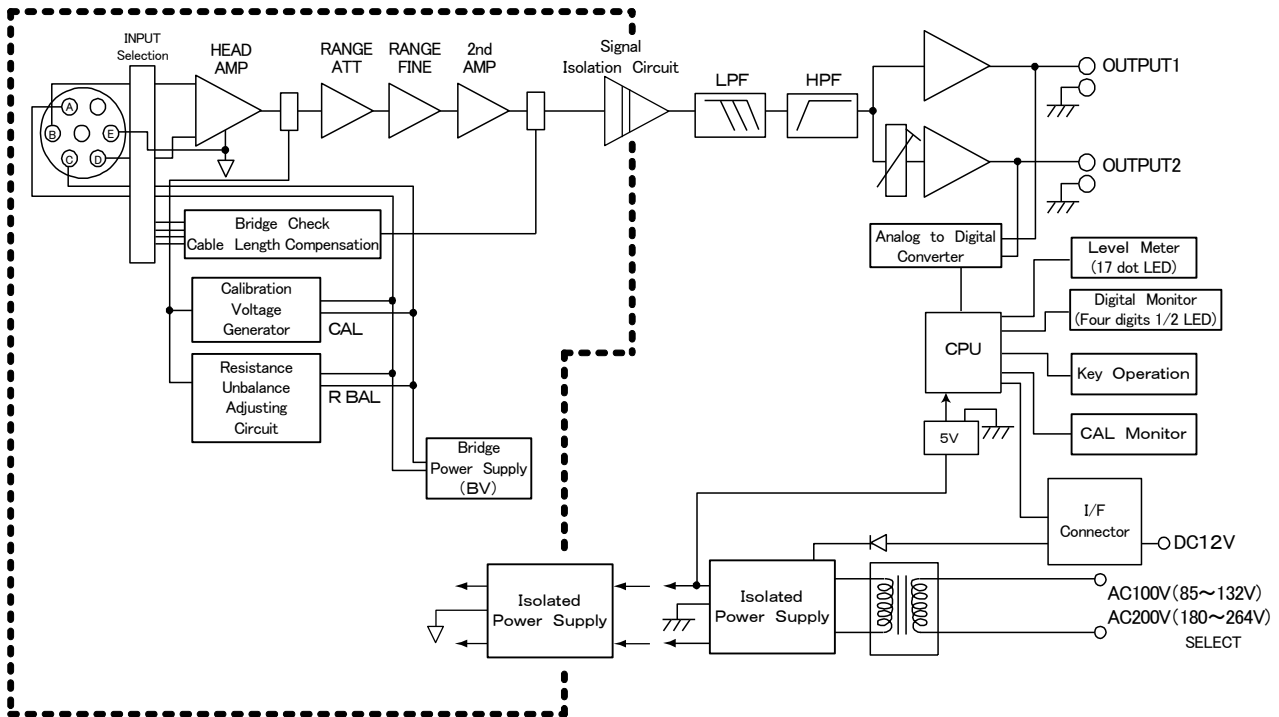

Fig. 5-1 Block Diagram
5.1 Flow of Measurement Signal (Refer to figure 5-1)